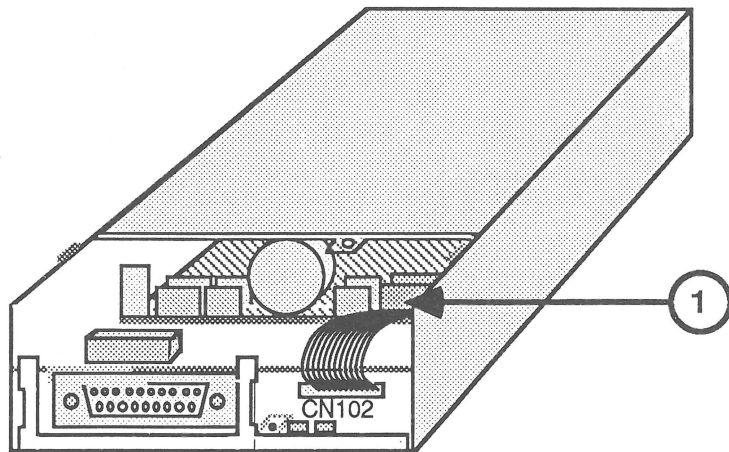
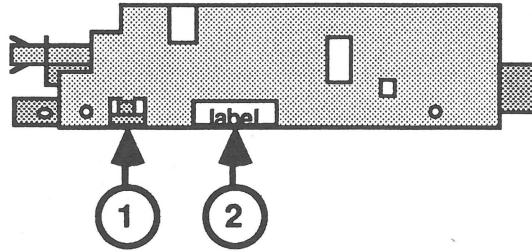

FIGURE 9
FIGURE 10
3. Disconnect CN102 from the drive mechanism (Figure 9, #1).
5. Slide the inner metal shield in the direction of the arrow in Figure 9 until the tabs on each side (Figure 10, #1) clear the holes; then lift off the shield. (If this is difficult, try carefully inserting a small flat-blade screwdriver under the shield to free it from the tabs.)
1. If necessary, remove the shipping fixture from the new 800K drive mechanism. Then place the inner metal shield over the 800K drive mechanism, matching the label on the mechanism to the cutout on the shield (Figure 10, #2). Snap the shield into place.